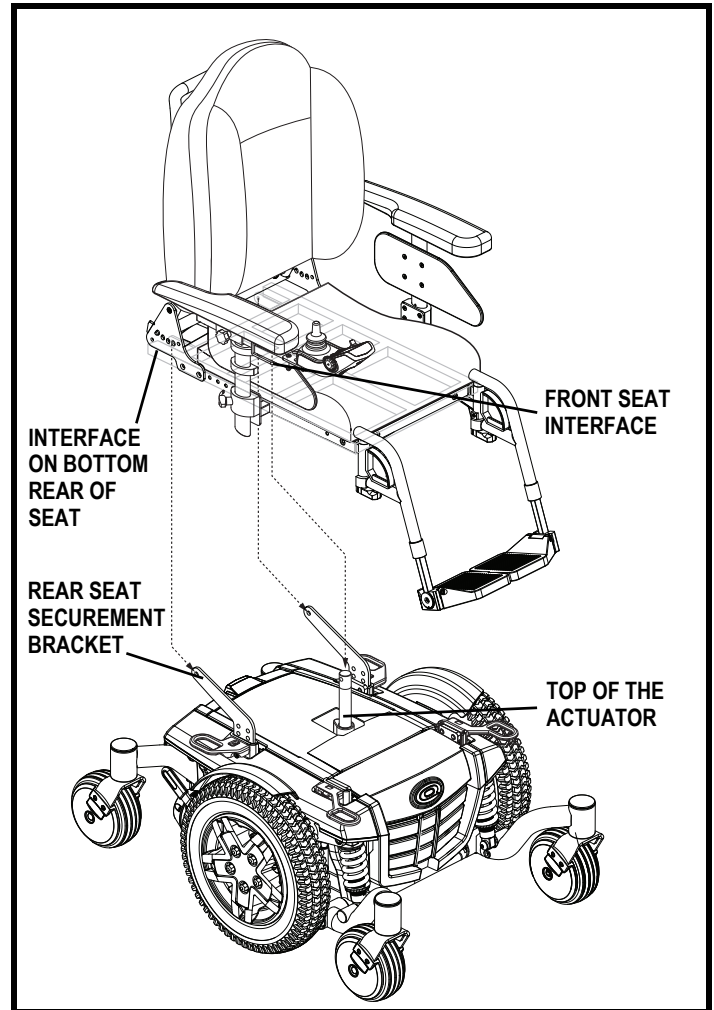

Figure 7. Universal Mounting System
1. Tilt the seat back and align the interfaces on the bottom rear of the seat with the rear seat securement brackets on the power base and secure with the hardware. See figure 7.
2. Remove the detent pin from the front seat interface. See figure 7.
3. Pivot the seat rearward and remove the seat from the power base by removing the hardware that attaches the rear seat securement brackets to the interfaces on the bottom of the rear of the seat. See figure 7.
8. Reinstall the detent pin to the top of the tilt actuator using the detent pin. See figure 7.